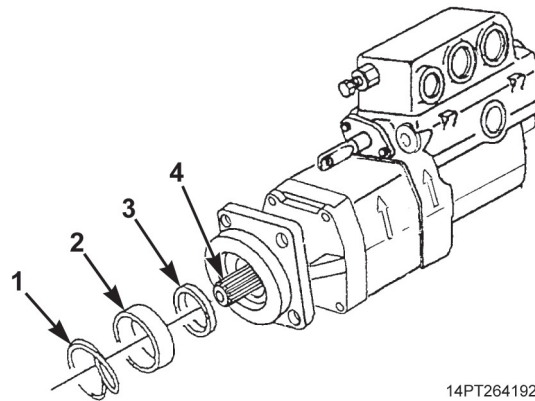

Figure 1. Drive Shaft Retaining Ring Removal.
1. Remove retaining ring (Figure 1, Item 1), spacer (Figure 1, Item 2), and seal retainer (Figure 1, Item 3) from drive shaft (Figure 1, Item 4). Discard retaining ring.